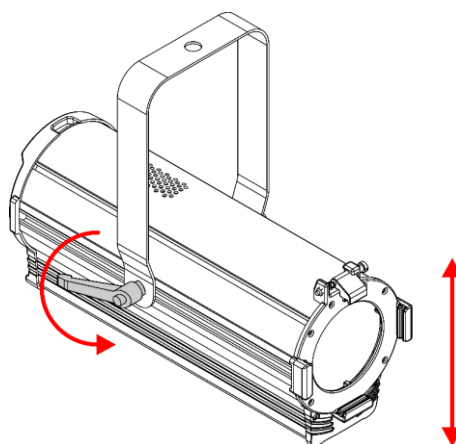

Fig. 07
- 01) Turn the **adjustment handle (05)** counterclockwise to release it.
- 02) Tilt the device at the desired angle (see Fig. 07).
- 03) Turn the **adjustment handle (05)** clockwise to tighten it. Make sure that the device cannot move freely after the **adjustment handle (05)** is tightened.